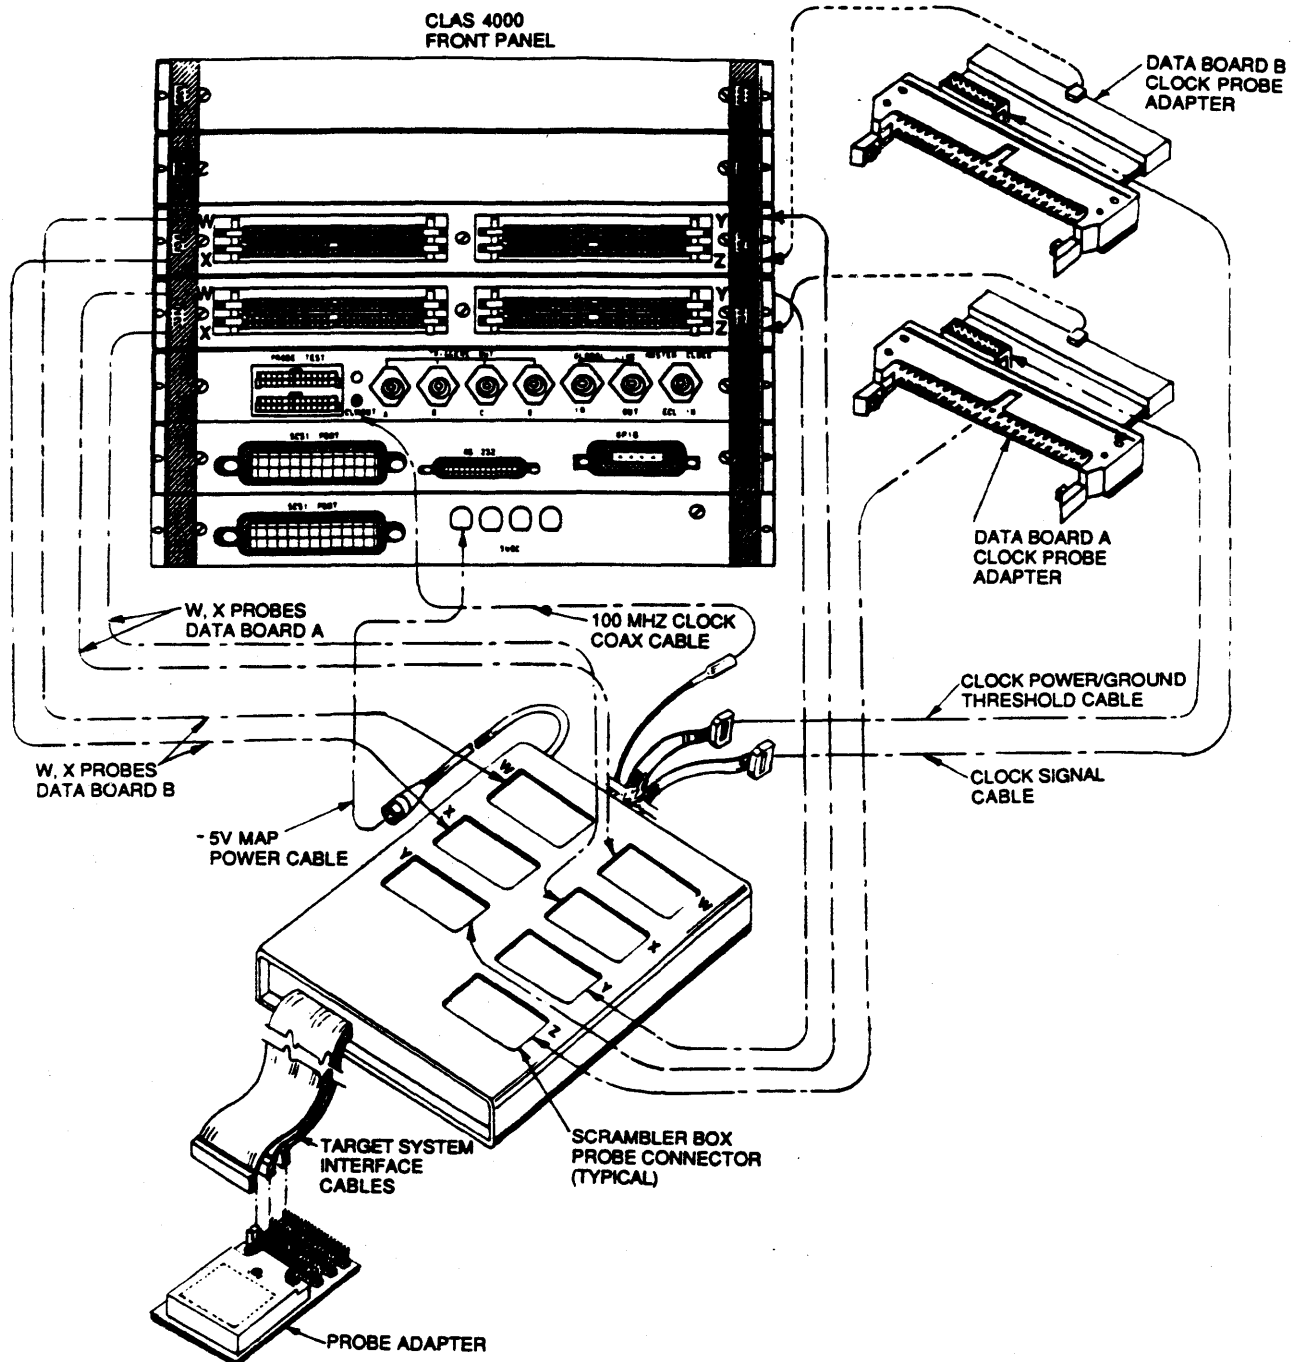

Figure 5-2. Scrambler Box to CLAS 4000 Connections
The clock interface cables attached to the Scrambler Box must be connected to the CLAS 4000 and input probes for the CLAS 4000 are connected to the Scrambler Box as shown in Figure 5-2. Probe connectors on top of the Scrambler Box are labeled W, X, Y, and Z to identify the location for a corresponding analyzer probe.
- a) Connect W and X probes from Data Board A to corresponding W and X probe locations on right side of Scrambler Box (see orientation in Figure 5-2).